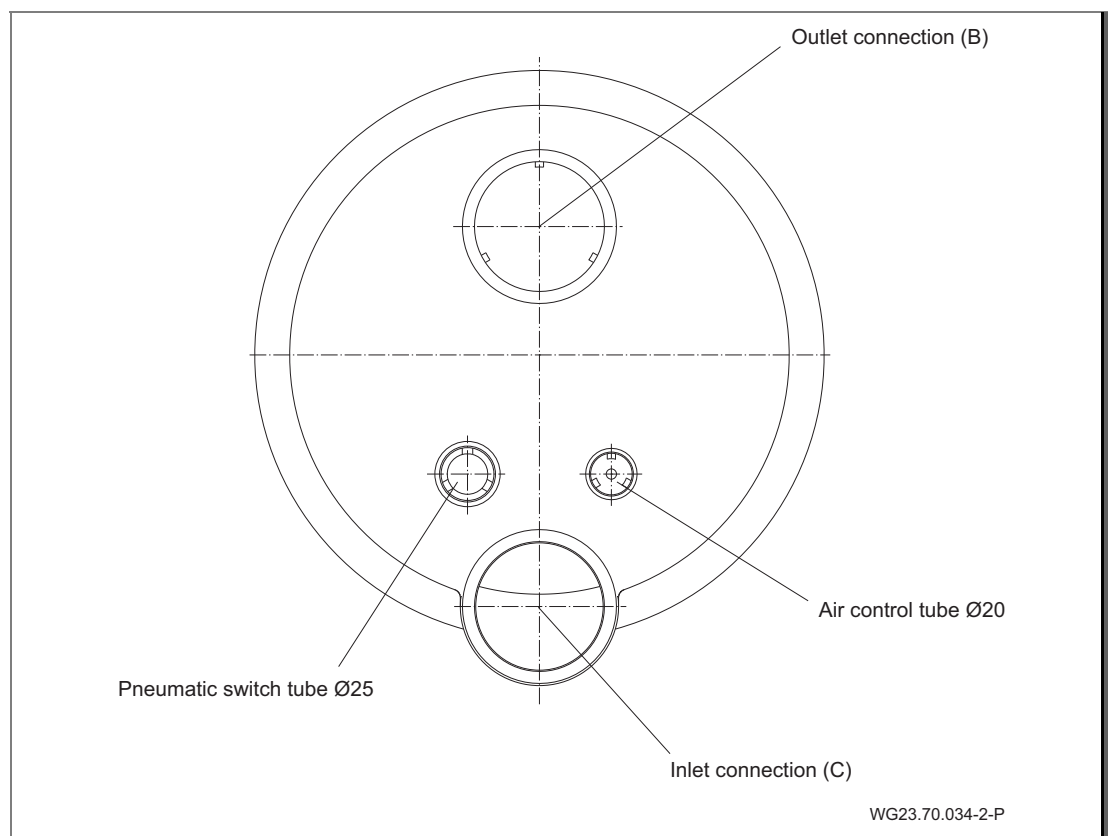

Fig. 15
1. Glue in the cable protection hose and the hose for air supply. (Fig. 15)